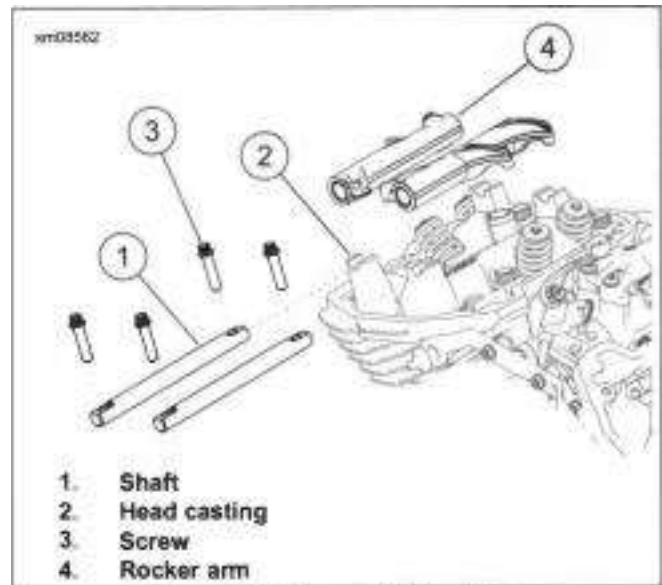

Figure 4-22. Remove Rocker Arms
- b. See Figure 4-22. Alternately loosen screws (3) until screws can be turned by hand.
- d. Remove rocker shaft (1) and rocker arm (4).
- b. See Figure 4-22 . Install rocker arm (4) and rocker shaft (1).
- d. Install screws (3).